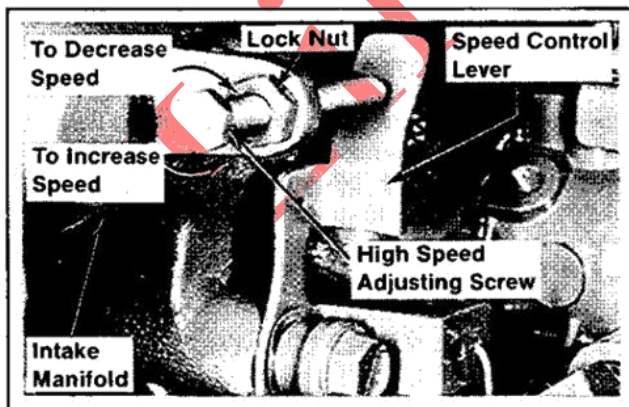

Figure 6-20. High Speed Adjustment.
1. Loosen the lock nut on the high speed screws. Refer to Figure 6-20.